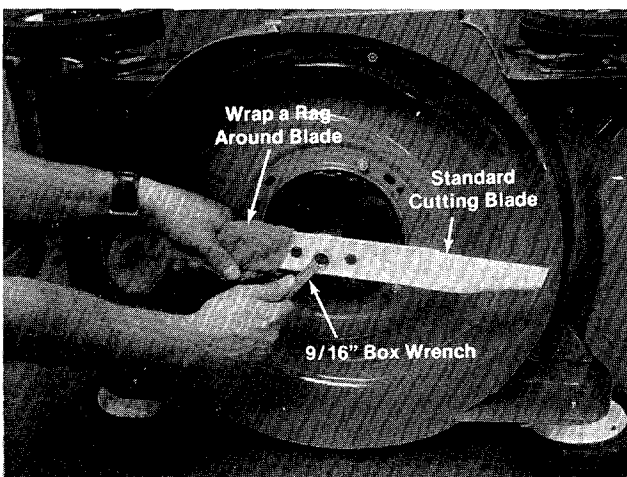

FIGURE 11.
3. The same instructions in step 2 apply to the standard cutting blade. See figure 11.